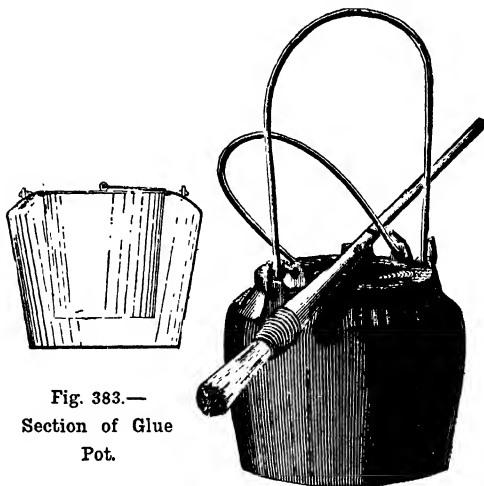

Fig. 383.—
**Glue Pot.**—A glue pot has an inner and an outer vessel as shown in the section (Fig. 383). The outer vessel holds the water and the inner vessel the glue. Thus the glue is cooked in a water bath, and burning is entirely prevented. An ordinary glue pot is shown by Fig. 384.
**Liquid Glue.**—(1) Some liquid glues now on the market are made by boiling glue with a solution of borax or pearlash. Suitable proportions are: Glue 10 parts, water 25 to 30 parts, and borax or pearlash 1 part. Boil for about one hour over a slow fire, or in a jacketed pan, so that the mixture does not burn, and make up to the original volume with water. (2) A liquid glue can also be made by dissolving 2 parts of borax in 19 parts of water; when the borax is dissolved, gradually add to the solution  $5\frac{1}{2}$  parts of casein, and stir the whole thoroughly from time to time till it forms a thick homogeneous fluid. (3) Liquid glue may be made by breaking down ordinary glue into small pieces and soaking in strong acetic acid. When the glue has swollen up, melt down by standing the bottle in hot water and add more acetic acid. About one part of glue to five or six parts of acetic acid will be required. (4) Another method is to soak 8 oz. of glue in 10 oz. of water; when the glue is soft, melt down by heating the bottle in water, then add  $2\frac{1}{2}$  oz. of moderately strong nitric acid (sp. gr. 1.3), and continue heating until all the fumes have passed away. (5) Heat together on a water bath for six hours, clear gelatine, 100 parts; best Scotch glue, 100 parts; alcohol, 25 parts; alum, 2 parts; and 200 parts of 20 per cent. acetic acid. (6) Another liquid glue is made from glue 100 parts, water 250 parts; boil and add 1 part of carbonate of potash, continue boiling for about half an hour or till the liquid remains fluid on cooling. The boiling should be done in